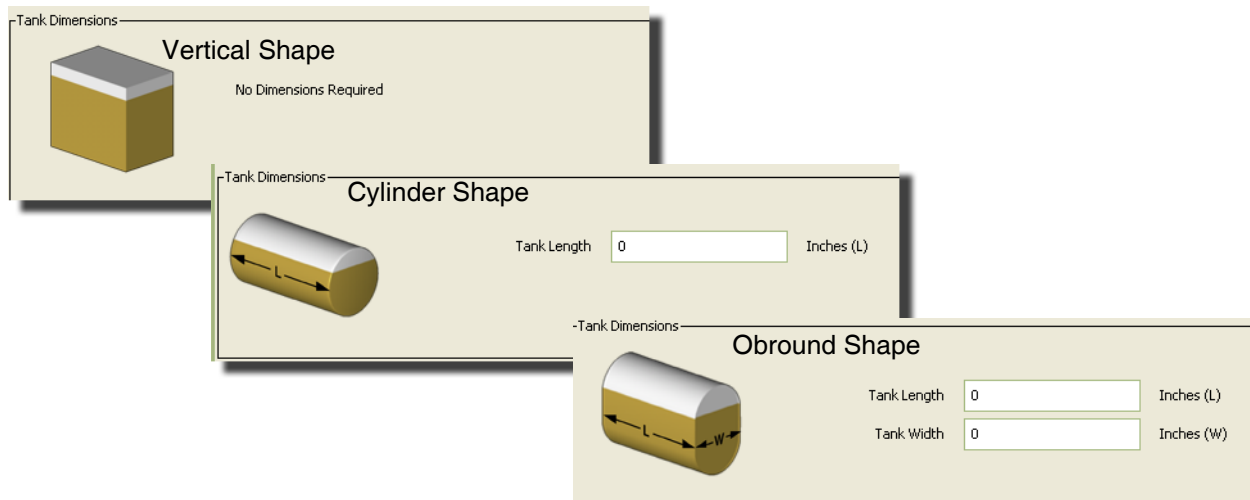

FIG. 118
- **Tank Shape:** select either vertical (default), cylinder or obround. Additional dimension information is required for Cylinder and Obround shaped tanks (See FIG. 118).